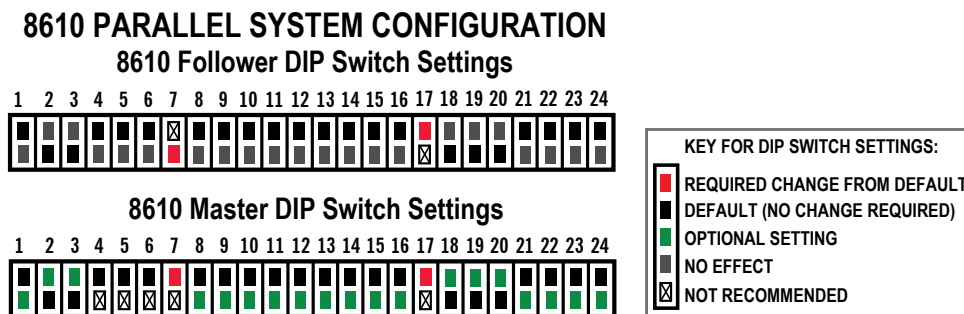

Figure 6.7 – Required DIP switch settings for parallel amplifiers
1. Refer to **Figure 6.7** to configure each amplifier's DIP switches for parallel operation. On the amplifier designated as Follower, **set DIP switch #7 in the DOWN (Follower) position.** On both amplifiers, **set DIP switch #17 in the UP (Electronic Gain Matching ON) position.** Note that other configuration settings controlled by DIP switches can also be selected before operation. In an 8610 multi-amp system, **all settings except for Control Configuration (SW#7) and Electronic Gain Matching (SW#17) are controlled by the Master amplifier.** For these additional configurations, setting of the DIP switches on the Follower amplifier is not required.